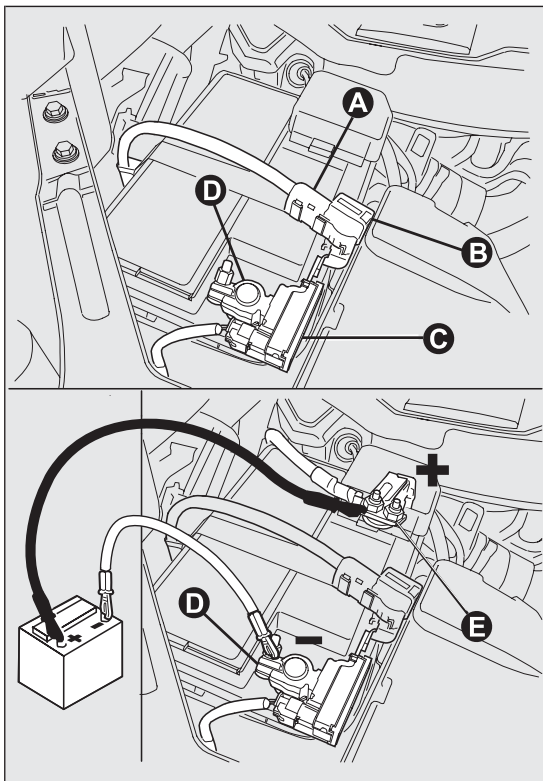

fig. 194
- disconnect the connector A fig. 194 (pressing the button B) from the sensor C monitoring the battery conditions, on the negative pole D of the battery;
- after having disconnected the battery charger, reconnect connector A fig. 194 to the sensor C as shown.